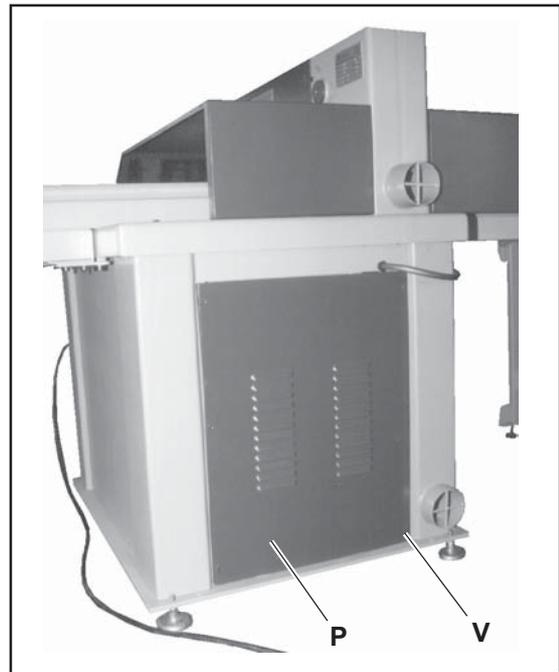

Fig. 7-1 Rear door
- 1) Take off the rear door **P** (fig. 7-1) with the slits by undoing the screws **V**.